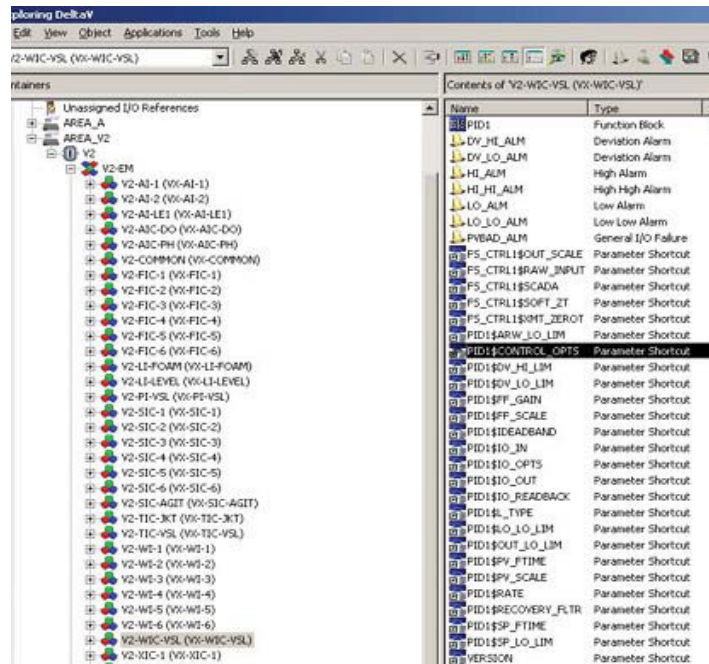

Figure F.3. Module name in the right column.
- Double-click **PID1\$CONTROL_OPS** in the right column (Figure F.3).